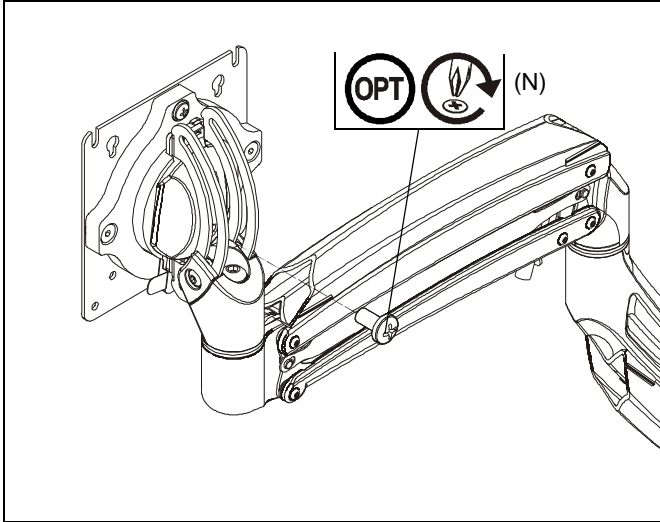

Figure 9
NOTE: In order to prevent display from being easily removed from mount using the quick release lever, install M4x4mm security screw (N) into lower hole on back of faceplate. (See Figure 9)